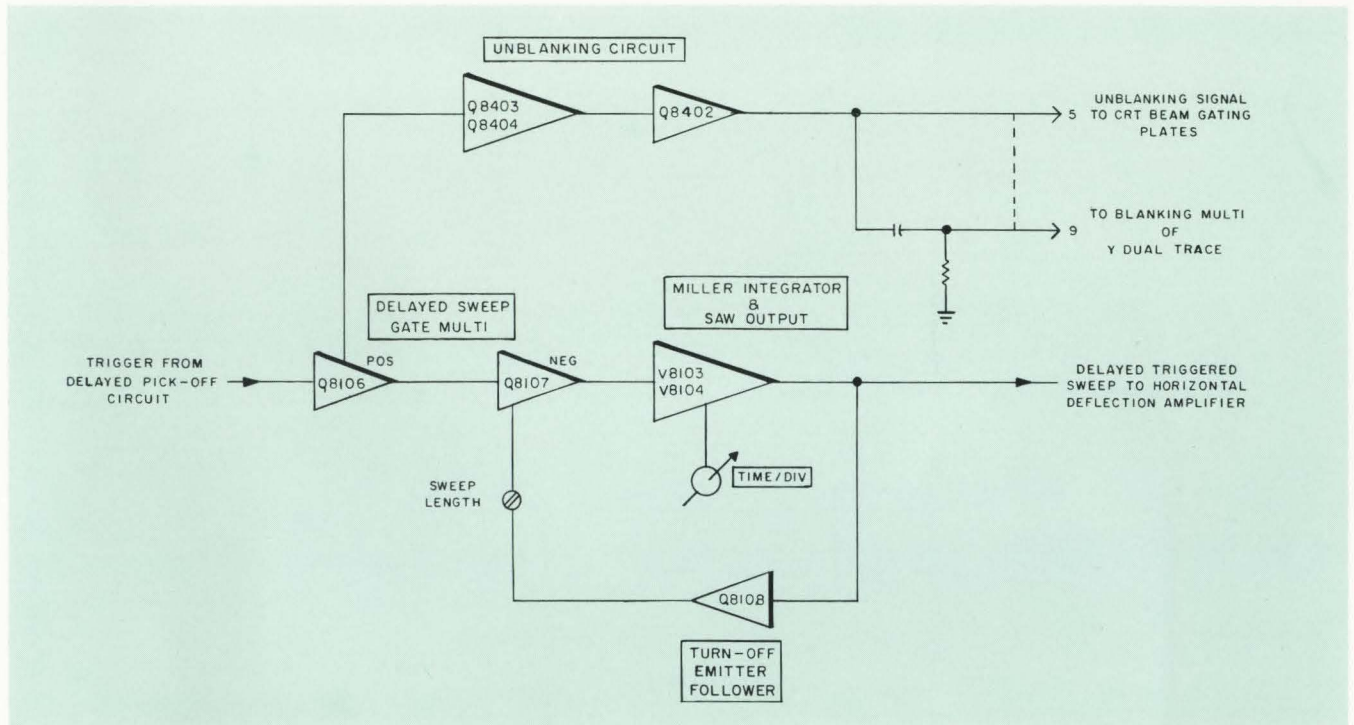

Figure 3-6. Delayed-Triggered Mode, Functional Block Diagram
- Figure 3-6. Delayed Triggered Mode, Functional Block Diagram
(Figures 3-6 and 3-7)